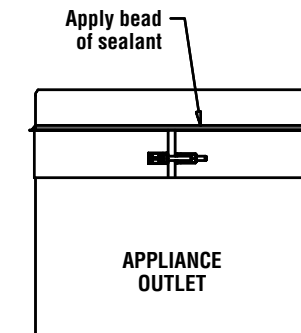
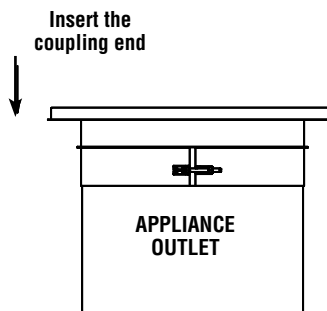

Figure 39
Figure 40
3. Add a bead of sealant about 1/8" on the flange of the retaining band and one on the flange of the adaptor (SWA) and mate those two flanges together. Be sure to fill all the gaps with S-2000 sealant. (See **figure 39 and figure 40**).